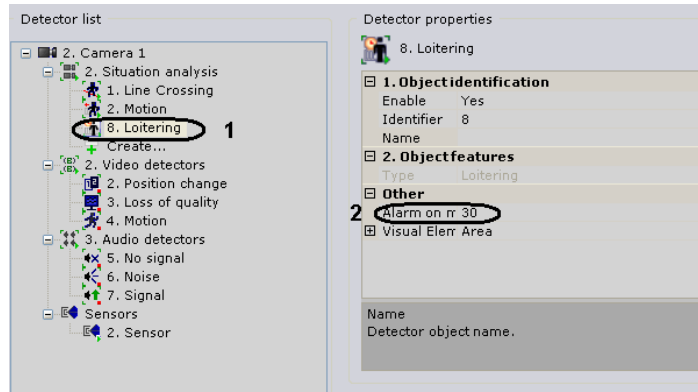

Fig. 6.5—10 Configuring the loitering detector
1. In the detector list, highlight a **Loitering** object (Fig. 6.5—10, 1).
2. In the **Alert on max. object loitering time** field (see Fig. 6.5—10, 2), enter the maximum object loitering time in seconds. The value should be in the range [0, 3600].